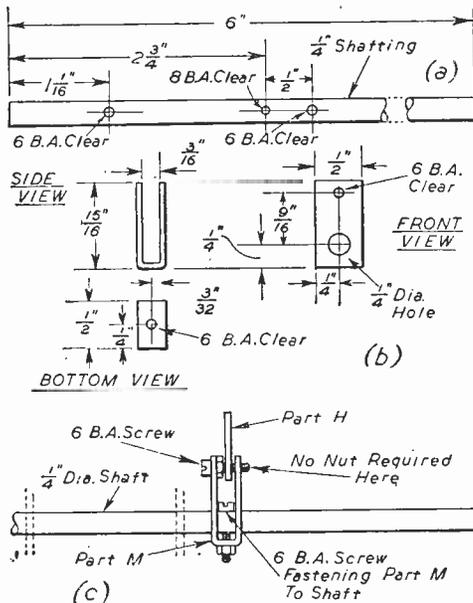
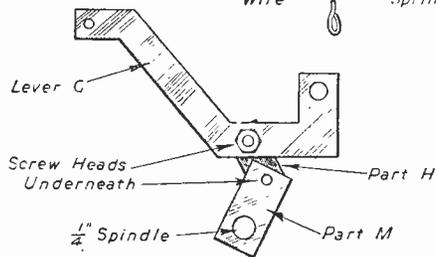

Fig. 15. (a) and (b).—Details of shafting, and its mount. (c) How part M is fixed to the 1/4 in. spindle.
Fig. 16.—Showing how parts G, H and M are all fitted together.
14. It is now necessary to cut the $\frac{3}{4}$ in. shafting to length and also to drill a few holes in it. Fig. 15(a) shows how this is done. All the holes are drilled in the same plane. It may be found easier to file a small "flat" at each point where a hole is needed before drilling is commenced.
15. Another part, part M, has now to be made. This is mounted on the $\frac{3}{4}$ in. spindle at the right-hand hole shown in Fig. 15(a) and its dimensions are given in Fig. 15(b).
16. Fig. 15(c) shows how part M is fitted to the spindle and also how part H is fitted to part M. It will be remarked that part H is already fitted to part G; for simplicity, however, part G is not shown in Fig. 15(c). Fig. 16 shows the relationship between the parts now coupled.
switch to the chassis plate, part J. We now fix a $\frac{1}{4}$ in. bolt to the remaining "6 BA clear" hole in the $\frac{1}{2}$ in. shafting (i.e., the left-hand hole in Fig. 15(a)), so that the threaded part points towards the tuning condenser when the mechanism is in the "looked" position. The spindle of the switch (projecting below the chassis) is fitted with a bush which is locked with a $\frac{1}{4}$ in. bolt. (See paragraph regarding the obtaining or manufacture of these bushes.) When the spindle is turned to the "condenser locked" position the bush is so adjusted on the switch spindle that the $\frac{1}{4}$ in. 6 BA bolt pushes the $\frac{1}{4}$ in. bolt round sufficiently to put the